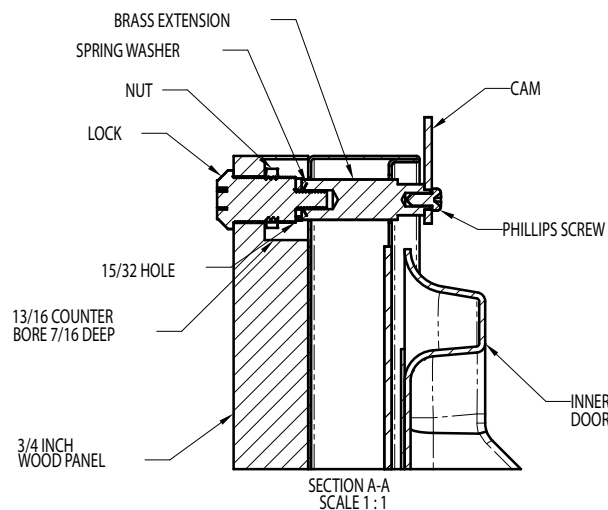

Figure 10
Locate and mark with a pencil the location of the lock hole on the overlay panel, this is the hole in the top corner of the handle side of the door. Remove the clamp and remove the overlay panel from the door. On the backside of the panel where you marked the lock location drill a $1\frac{1}{16}$ " (20.5mm) diameter counter bore $\frac{7}{16}$ " (11.0mm) deep into the overlay panel. Drill a $1\frac{1}{32}$ " (12.0mm) diameter hole through the overlay panel centered on the counter bore being careful not to splinter the wood on the face side of the panel. (See Figure 10).
Two (2) lock extensions are supplied with the lock. Use the longer extension for a $\frac{3}{4}$ " thick overlay panel and the shorter one for a $\frac{5}{8}$ " thick panel. Assemble the lock extension, cam stop washer, spring washer, and set screw to the lock as shown in Figure 10 and 11. Install this assembly into the overlay panel and secure with the retaining nut using a 15mm socket. Make sure the key slot in the lock is vertical.